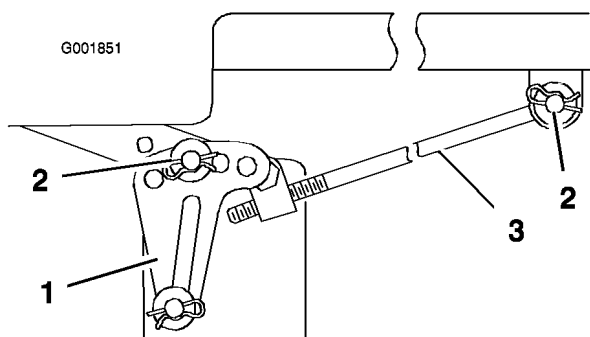

Figure 47
Note: Before removing the mower, make a note for which holes are used in the leveling brackets (Figure 47).
5. Remove the hairpin cotter and washer from the adjusting rod (Figure 47) on each side of the mower.
6. Remove the hairpin cotter and washer at the mower leveling brackets (Figure 47) on each side of the mower. Note which hole the leveling bracket is mounted in for future installation. Slide the brackets off of the mounting pin.
5. Attach the adjusting rod to the machine with the washer and hairpin cotter (Figure 47) on each side of the mower.
6. Slide the leveling brackets onto the mounting pins and secure them with the washers and hairpin cotters (Figure 47).